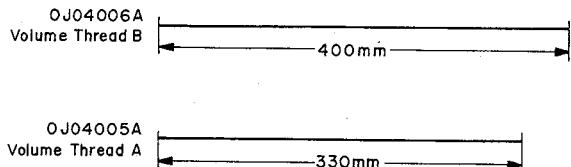

Fig. 5.2.1
- Refer to Figs. 5.2.1 and 5.2.2. Make knots at the ends of Thread A (OJ04005A) and Thread B (OJ04006A) and bond them with AVDEL BOND #C2.